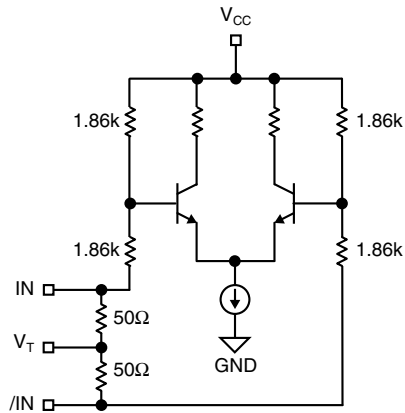

Figure 2a. Simplified Differential Input Buffer
- Note 3.** Due to the internal termination (see Figure 2a) the input current depends on the applied voltages at I_N , $/I_N$ and V_T inputs. Do not apply a combination of voltages that causes the input current to exceed the maximum limit!
Note 3. Measured as per Figure 2a, 100 Ω across Q and /Q outputs.